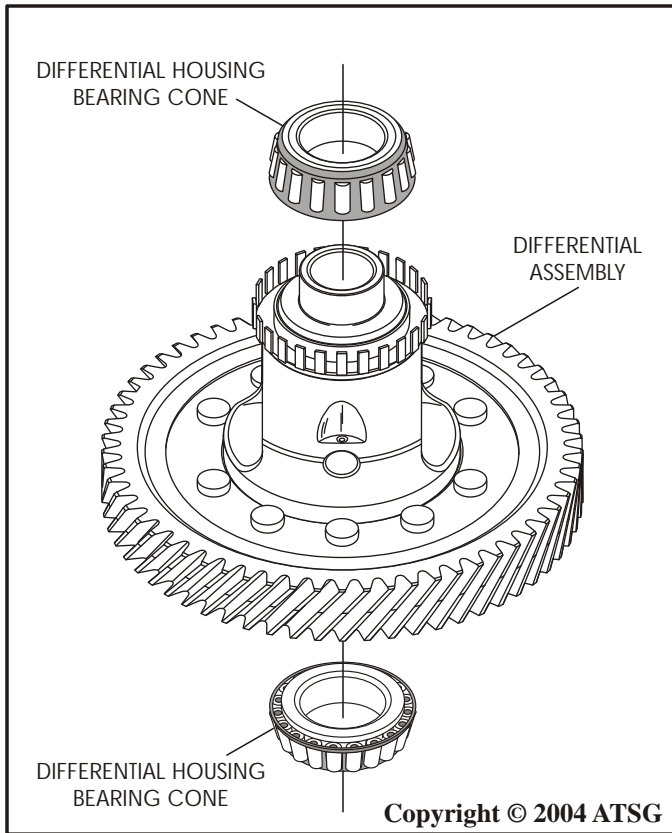

Figure 131
43. Remove and replace the two differential case bearing cones, as shown in Figure 131, using the proper adapters and a hydraulic press.